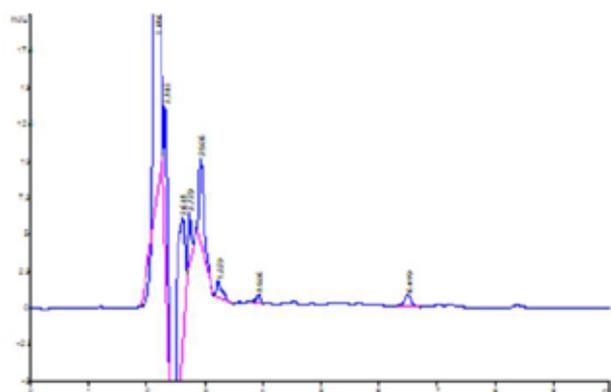

Figure 10 Chromatogram of blank egg sample
A) Figure 10 shows the chromatogram of blank egg sample.